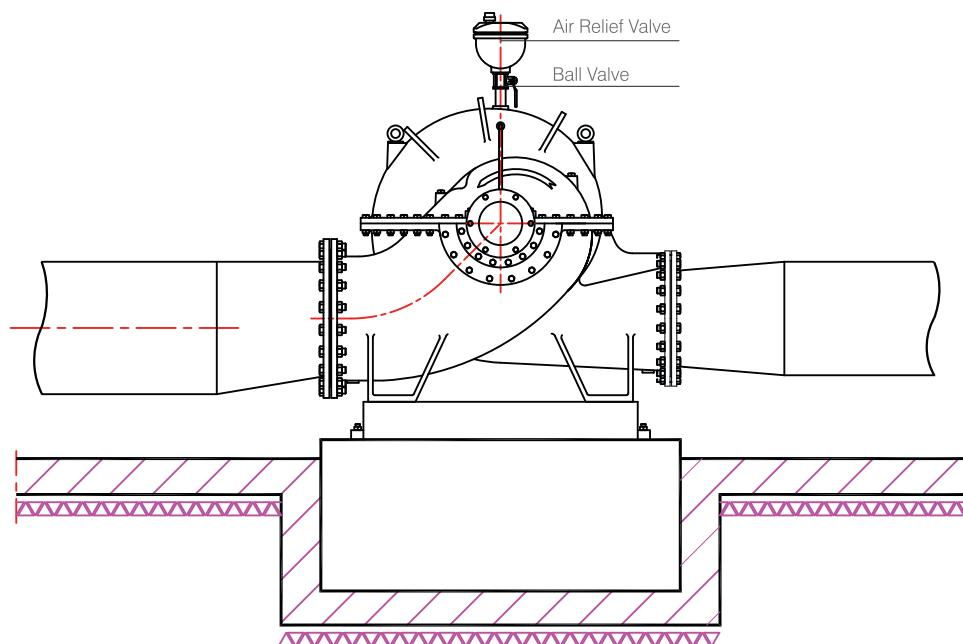

Figure 9: Air relief valve should definitely be placed where positive suction pressure exists in a pumping application
- Air relief valve should be installed to the top most point of any existing pump (Figure 9)